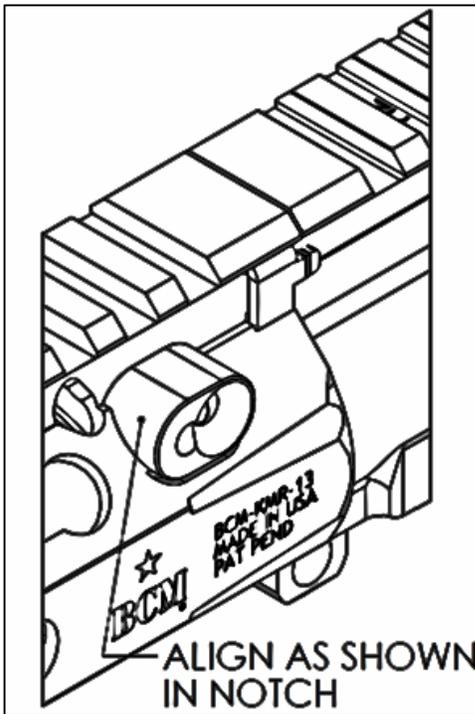

Figure 3.
- Starting on either side, locate and place a clamp block as shown in **Figure 3**.